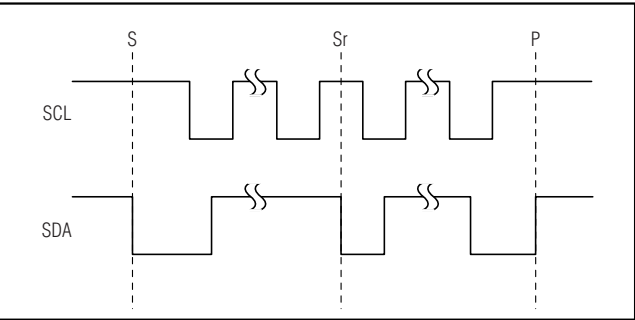

Figure 9. START, STOP, and REPEATED START Conditions
A master device initiates communication by issuing a START condition. A START condition is a high-to-low transition on SDA with SCL high. A STOP condition is a low-to-high transition on SDA while SCL is high (Figure 9). A START (S) condition from the master signals the beginning of a transmission to the MAX9775/MAX9776. The master terminates transmission, and frees the bus, by issuing a STOP (P) condition. The bus remains active if a REPEATED START (Sr) condition is generated instead of a STOP condition.